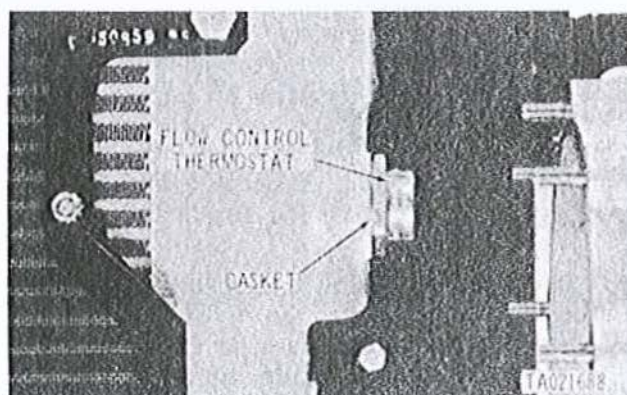

Figure 2-111. Removing or installing transmission oil cooler flow control thermostat.
- (1) Remove flow control thermostat (fig. 2-111).
- (2) Remove and discard gasket.
- (1) Position new gasket on flow control thermostat (fig. 2-111).
- (2) Install thermostat.